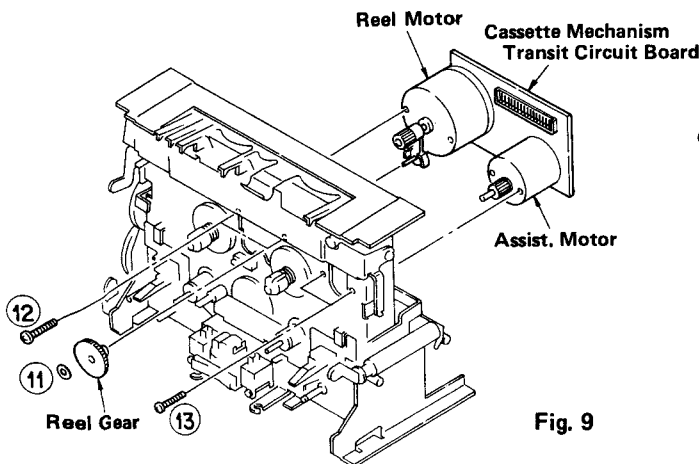

Fig. 9
- b. Remove Washer (11) of Fig. 9, and remove Reel Gear.
- c. If you will remove 2 screws (12) and 2 screws of (13), Reel Motor & Assist. Motor are taken off together with Mechanism. Transit Circuit Board.